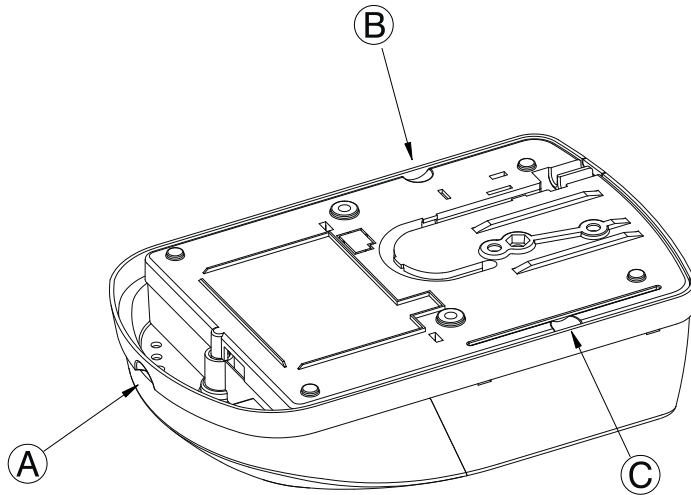

Fig. 17
- ii. open the Courtesy Lamp Cover by pulling it down at the finger recess point (Fig.17-A)
- v. remove the Control Box Cover by pulling first **outwards** and then **downwards** at the finger recess points (Fig.17-B & C)